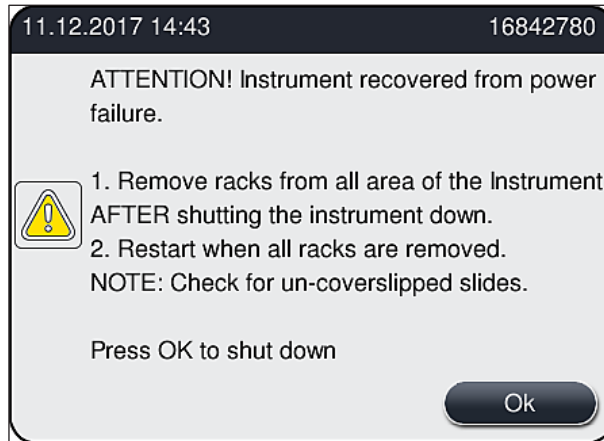

Fig. 109
- After the power supply has been restored, the instrument automatic performs a restart. The user is notified of the power failure by an information message (→ Fig. 109) on the screen, and the event is entered into the event log.
- ① After power supply has been restored, the instrument restarts automatically. An audible warning signal sounds and a warning message is displayed on the display (→ Fig. 109).
Then follow the instructions in the information message (→ Fig. 109) and remove the slides from the instrument.